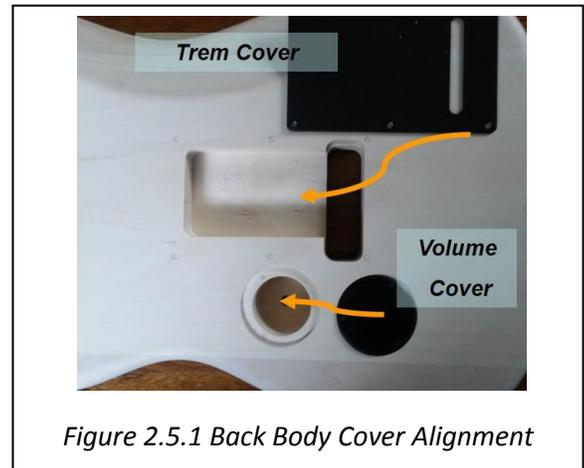

Figure 2.5.1 Back Body Cover Alignment
2.5 Fit check of the back covers \(Fig 2.5.1\) 3 -
2.5 Fit check of the back covers (Fig 2.5.1)